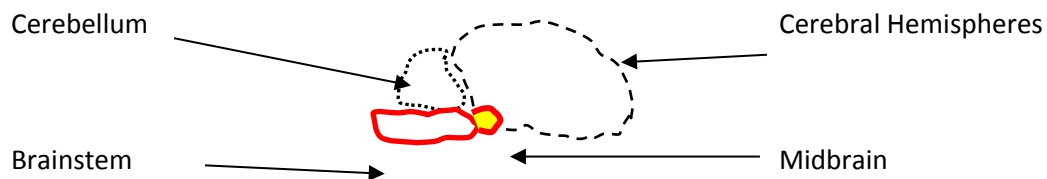

FIGURE 1 Diagram of the brain
- Young swine have thin skulls. Growers have skulls of intermediate thickness. Mature animals, especially mature males have thick frontal bones overlaying the brain. Pigs have small brains relative to the size of their head (Figures 1 and 2).